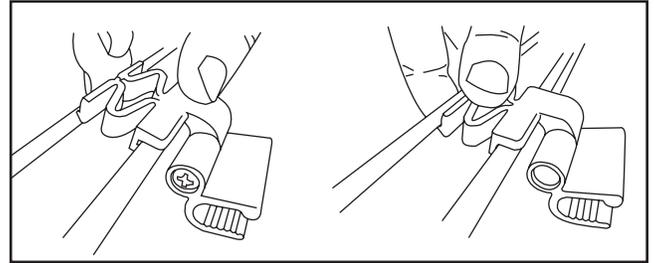

Figure 1 - Snap in fascia clips
**On wall mounted track installations,** snap the fascia clips into the recess at the top of the drapery track, one side at a time. Use a fascia clip between each set of brackets. Clips snap into the top track by hooking onto the front lip of the top of the track and then pressing down on the back. See Figure 1.